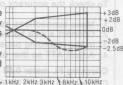
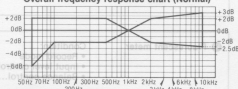

Fig. 13
Fig. 11
6. Playback the signals recorded in step 6, and check if the frequency response curve is within the limits shown in the overall frequency response chart for normal tapes (fig. 11).
When the curve exceeds the overall specified frequency response chart (fig. 11) as shown in fig. 12:
- 2) Repeat steps 5 and 6 for confirmation. (Proceed to steps 7, 8 and 9 if the curve is now within the charted specifications as shown in fig. 11.)
- 3) If the curve still exceeds the specifications (fig. 11), increase bias current further and repeat steps 5 and 6.
When the curve falls below the overall specified frequency response chart (fig. 11) as shown in fig. 13:
- 3) If the curve still falls below the charted specifications (fig. 11), reduce bias current further and repeat steps 5 and 6.